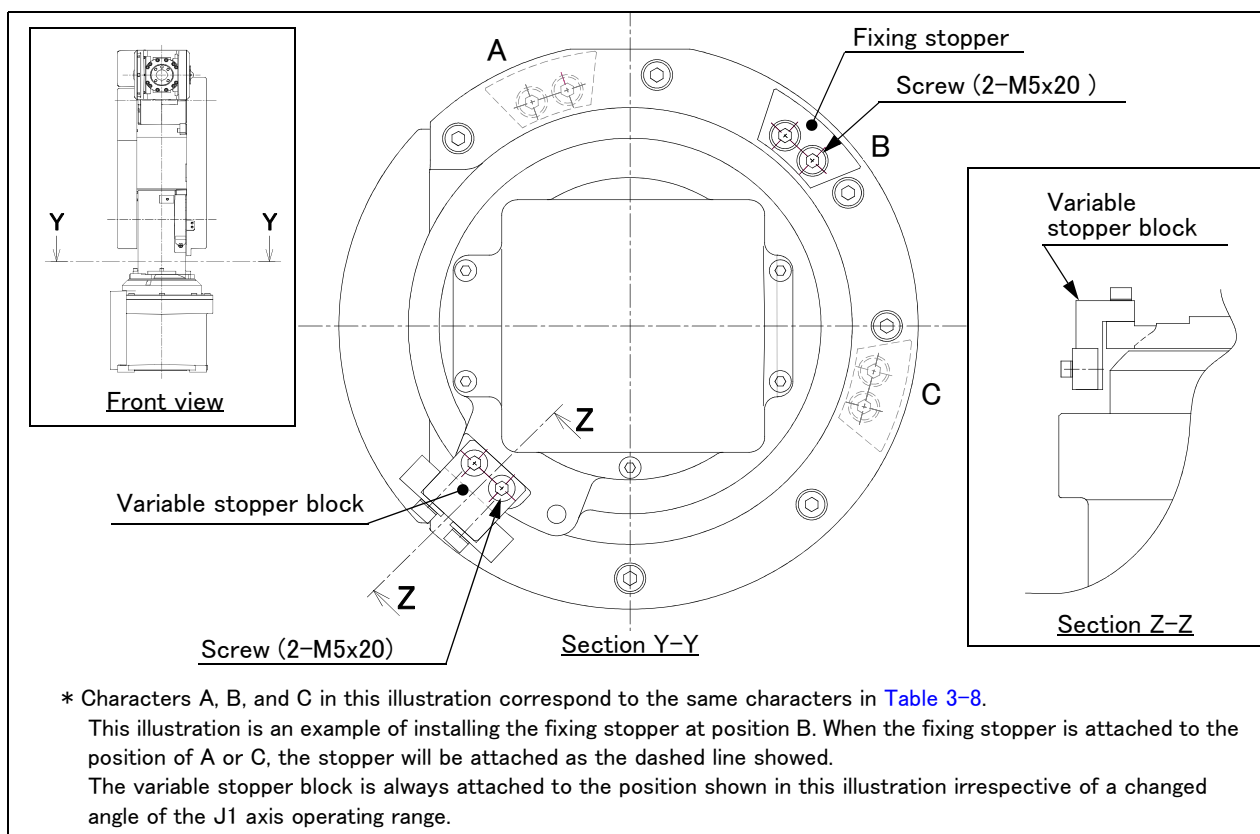

Fig.3-1 : Installation procedure of optional stoppers
The changeable angle of J1 axis is shown in Table 3-8. Refer to Table 3-8 to confirm the installation position of the fixing stopper corresponding to the angle to change or setting value of a parameter. Refer to Fig. 3-1 for details of the installation positions of the stoppers.
Note1) Characters A, B, and C in this table are correspond to the same characters in Fig. 3-1.
- 2) Refer to Fig. 3-1 and install the fixing stopper to the installation position corresponding to the angle to change. Tighten the screw firmly to fix the fixing stopper. (Tightening torque: 9.5 Nm)
- 3) Install the variable stopper block to the position shown in Fig. 3-1. Tighten screws firmly to fix the variable stopper block as well as the fixing stopper. (Tightening torque: 9.5 Nm)
(4) Setting the parameter